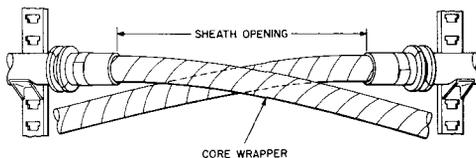

Fig. 12—Sheath Removed From Cable
3.07 **DANGER:** The sharp edges of the metal shield must be handled carefully to avoid injury. Remove the polyethylene jacket and metal shield as outlined in Section 632-315-200 and as shown in Fig. 12.